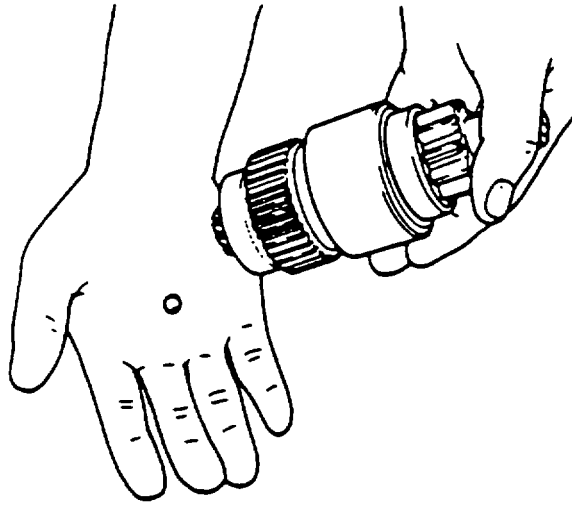

FIGURE 3-23. Removing Steel Ball
- i. Remove steel ball (18, FIGURE 3-15) from overrunning clutch (17), refer to FIGURE 3-23.